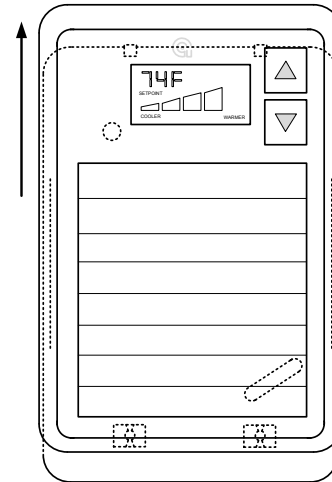

Fig. 2 – Opening Adjuster
- Open the adjuster. Slide the adjuster up from the back plate approximately 1/4"/6mm to free the adjuster from the back plate (see Fig. 2 Opening Adjuster).